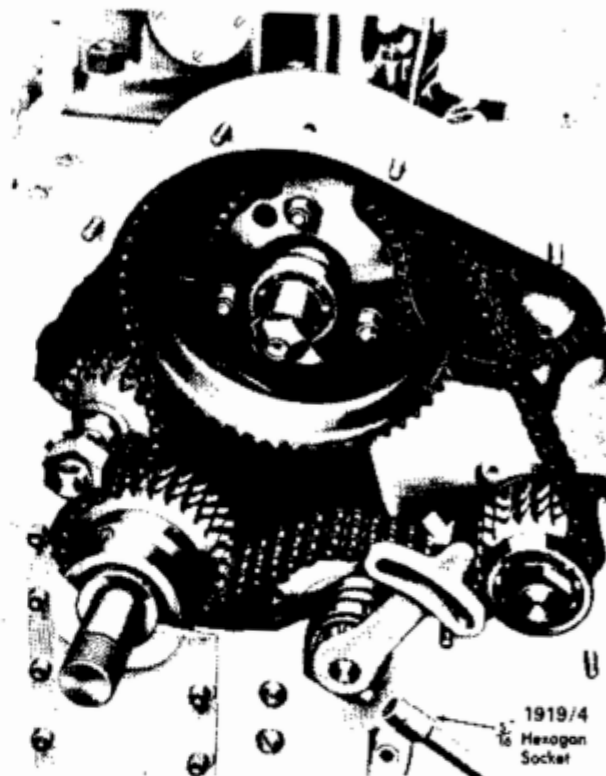

Fig. 19. Timing Chain Adjuster
56. ADJUSTMENT OF TIMING CHAIN. Wear of the timing chain is accelerated by lack of adjustment and undue slackness may promote noise and unsteady governing. Chain adjustment should be checked after the first 12,000 miles (1,200 hours) and every 48,000 miles (4,800 hours) inspect and adjust if necessary by means of the manual chain lever adjuster shown in Fig. 19. The chain is correctly adjusted when it is possible to move the middle of the nearly vertical run through approximately a distance of $\frac{1}{4}$ in. (3.2 mm.) either side of the mean position, i.e. $\frac{1}{4}$ in. (6.35 mm.) maximum overall deflection with finger pressure. Do not run the engine with excessive chain slackness. Similarly, it is important to avoid over-tightening the chain as, of course, this also will create an abnormal rate of wear.
clockwise viewed from flywheel end) tightening of the chain by moving the chain adjuster lever in a clockwise direction automatically restores correct timing, but on opposite rotation engines (clockwise rotation viewed from flywheel end) it will be necessary to correct the timing as well as the chain tension since adjustment of the tension will further retard the timing of the valves and injection. To correct the timing it will be necessary to remove the chain case cover to gain access to the three nuts securing the valve camshaft chain wheel to the camshaft hub (see Fig. 19). Set the injection control pointer in the full speed position and turn the flywheel so that the injection timing mark coincides with the line on the crankcase end plate or flywheel housing. Slacken the three nuts on the chain wheel and rotate the camshaft slightly anti-clockwise (which also slightly rotates the fuel pump camshaft) until the timing lines on the fuel pump plunger guides coincide with the lines on the sides of the fuel pump body windows. The three nuts on the chain wheel should then be firmly retightened.